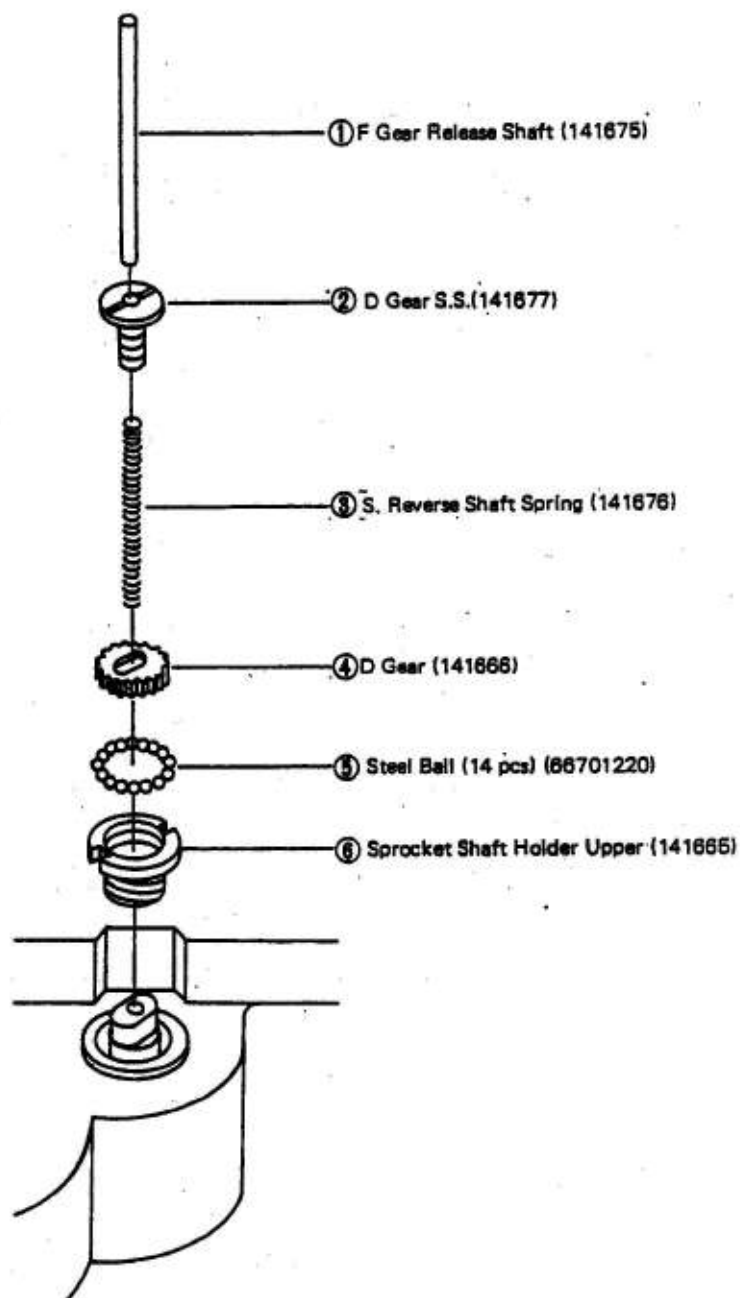

Fig. 40
- a) Remove the respective parts ① ~ ⑥ shown in (fig. 40) in numerical order.